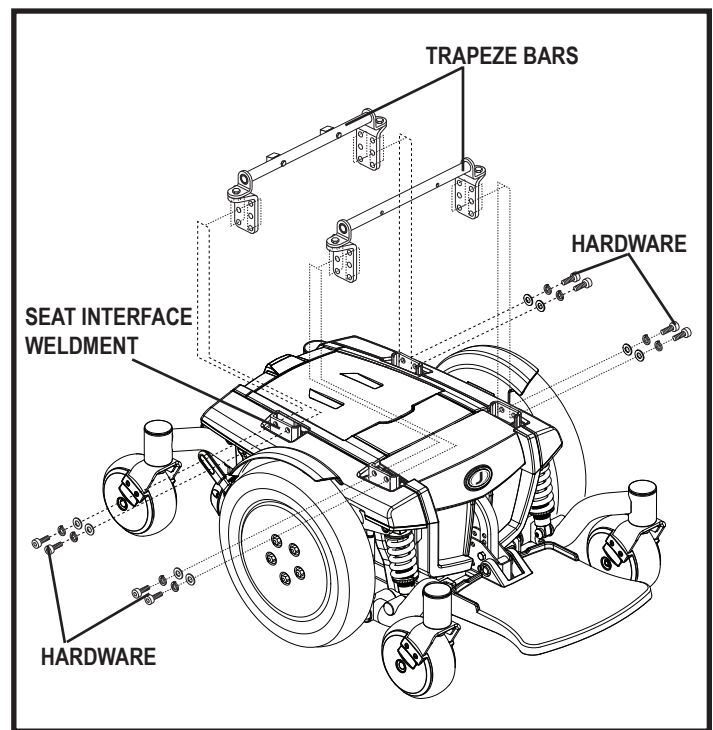

Figure 15. Seat Height/Angle Adjustment–UMS
With the Universal Mounting System, you can change the seat height to one of three positions by raising the front and rear trapeze bars. If you raise or lower only one trapeze bar (front or rear), you can also change the seat base angle (dump). See figure 15.
7. Remove the hardware that attaches the trapeze bars to the seat interface weldments. **See figure 15.**